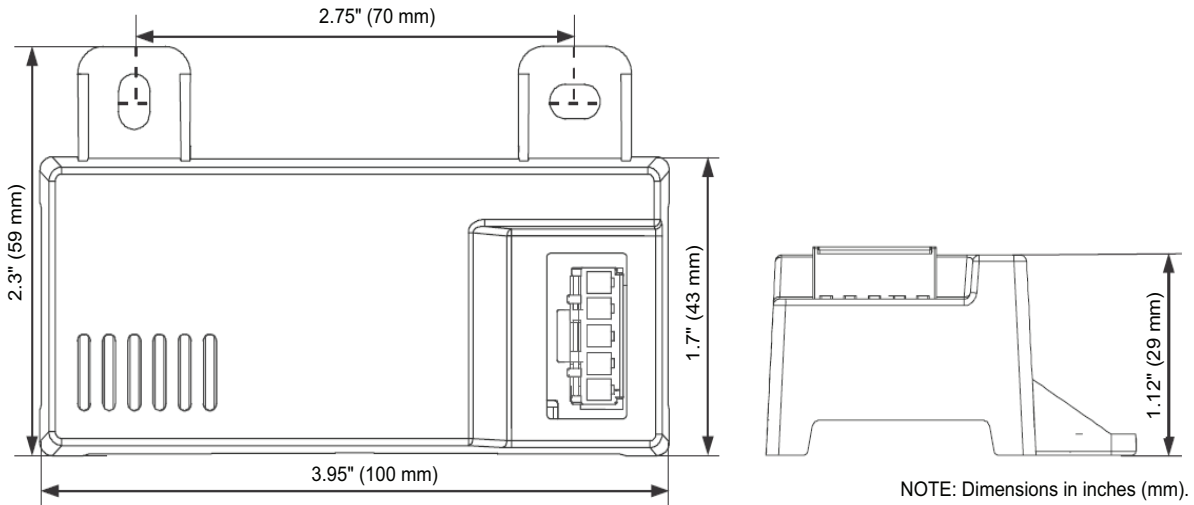
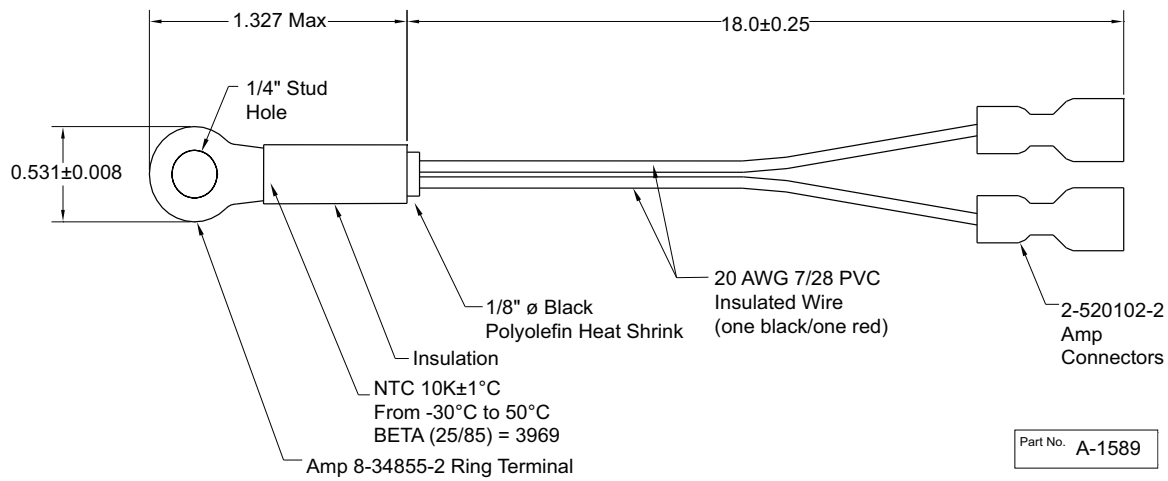
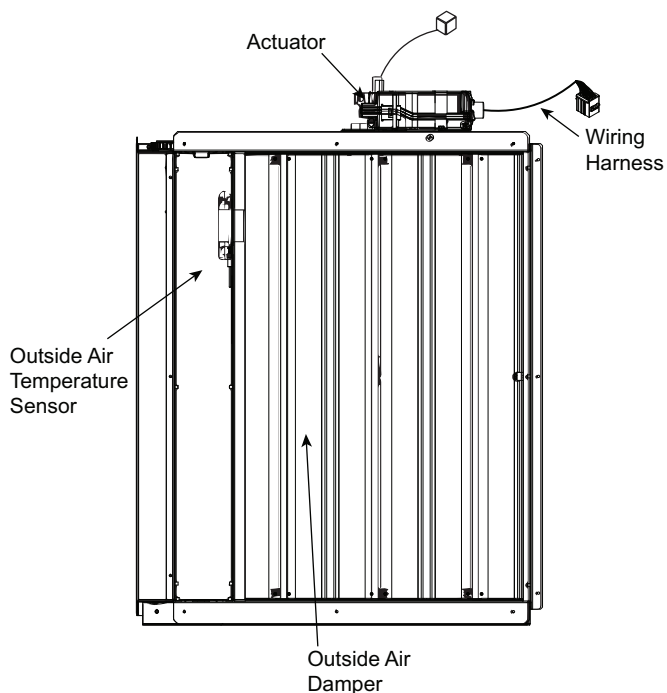

Fig. 63 – HH57LW001 Dimensional, Connection and Switching Information
Fig. 64 – HH79NZ039 Dry Bulb and Mixed Air Sensor Wiring
Fig. 65 – EconomizerONE Component Locations (CRECOMZR108A00 Shown)
When using the HH57LW001 enthalpy sensor (see Fig. 63) for outside air changeover, the existing HH79NZ039 dry bulb sensor (see Fig. 64) must be removed. The enthalpy sensor will be mounted in the same location as the dry bulb sensor (see Fig. 65). When the enthalpy sensor's OA (Outside Air) temperature, enthalpy, and dew point are below their respective setpoints, the outside air can be used for free cooling. When any of these are above the setpoint, free cooling will not be available. Enthalpy setpoints are configurable and create an enthalpy boundary according to the user's input. For additional details, see Fig. 66-67 and Table 27.
The optional enthalpy control sensor (P/N: HH57LW001) communicates with the POL224 economizer controller using the 5-wire harness, 48TC005213. The HH57LW001 sensor can be used as a single outside air enthalpy, a differential return enthalpy, or a differential return temperature sensor. Refer to the base unit control wiring diagrams found earlier in this book to wire the HH57LW001 enthalpy sensor for each option. Use Fig. 63 and Table 29 on page 50 to locate the wiring terminals for each enthalpy control sensor.
Economizers are shipped standard with an HH79NZ039 outside air dry bulb sensor (see Fig. 64). System default setting (high temp limit) is 63°F (17°C) and has a range of 48°F to 80°F (9°C to 27°C). Sensor is factory installed on economizer.
If installing the optional HH57LW001 enthalpy sensor, the HH79NZ039 dry bulb outside air sensor must first be removed. Wire sensor to harness 48TC005213 and the (5) wires from the harness to the EconomizerONE harness in the return air chamber. Harness 48TC005213 has a 5-pin plug that connects directly to the HH57LW001 enthalpy sensor. Refer to the base unit control wiring diagrams earlier in this book for wiring connections. Refer to Fig. 63 and Table 29.